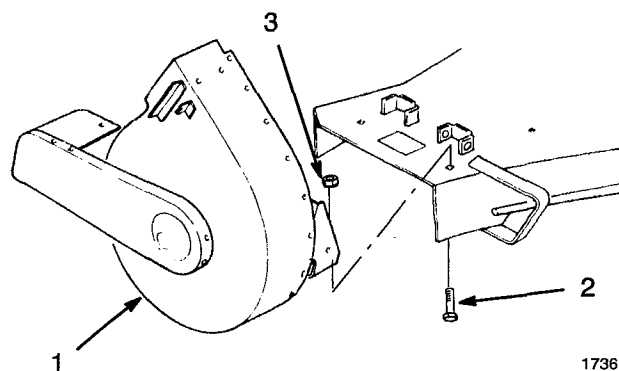

Figure 7
12. Install blower assembly on mower deck using (7) 5/16-18 x 3/4 in. bolts and lock nuts (Fig. 7).